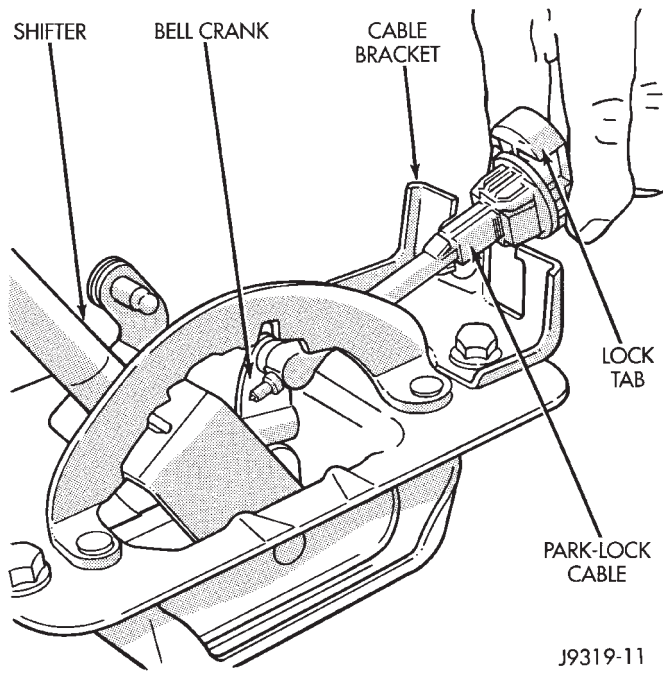

Fig. 4 Cable and Shifter
(1) Snap the cable base assembly into the large square opening in the steering column (Fig. 4).
- (3) Place the ignition key cylinder in the ACCESSORY position.
- (4) Remove shipping pin from plastic base.
- (5) Connect the cable eyelet to the bellcrank pin (Fig. 4).
- (6) Place gear selector in PARK.
- (7) Push the spring-loaded cable adjuster forward and snap cable into bracket (Fig. 4).
- (8) Push the cable adjuster lock clamp downward to lock it.
(9) Install the center console and related trim. Refer to Group 23, Body.
(10) Test the park-lock cable operation.
(11) Load the steering column up to the bracket. Refer to Column Assembly Replacement in this group.